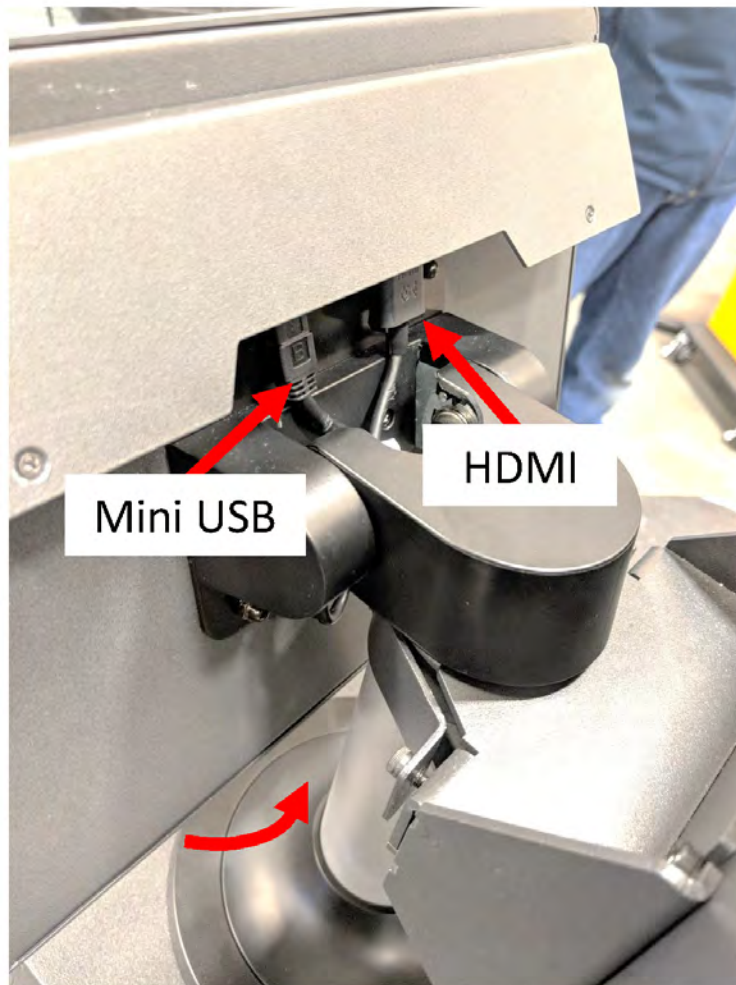

Figure 16-32 Rotate the Monitor on a Freestanding Configured System
1. Rotate the touch monitor to the full forward position to expose the mini-USB connector, HDMI connector and top set of fasteners that hold the touch monitor to the mounting bracket (refer to Figure 16-32).